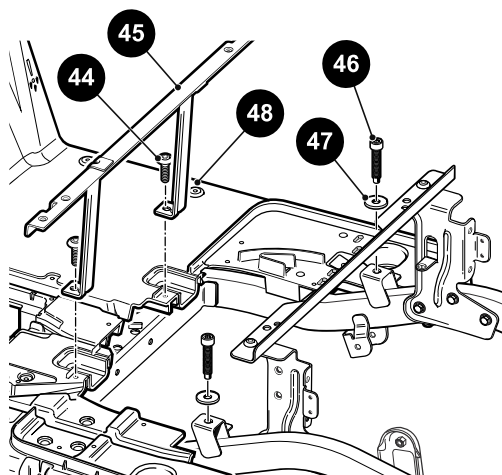

Figure 20 Seat Support and Floorboard
1. Remove the two torx screws (44) securing the front seat support frame (45) to the floorboard (48) (Figure 20).
2. Remove two torx socket head cap screws (46) and washers (47) that secure the floorboard (48) to the vehicle frame